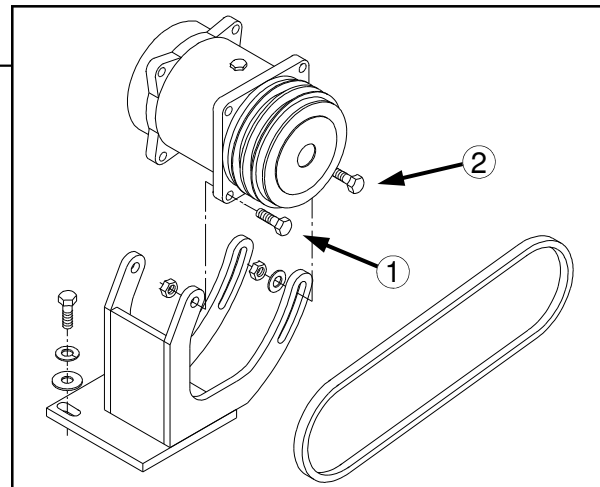

FIG 6.17-4
A/C COMPRESSOR BELT– To tighten air conditioner compressor belt, loosen the two pivot bolts (fig. 6.17-4, item 1) and the two slide bolts (fig. 6.17-4, item 2). Using a suitable prying tool, adjust tension on the belt to the desired tautness. While maintaining tension, re-tighten all four bolts. Inspect belt every 250 hours.